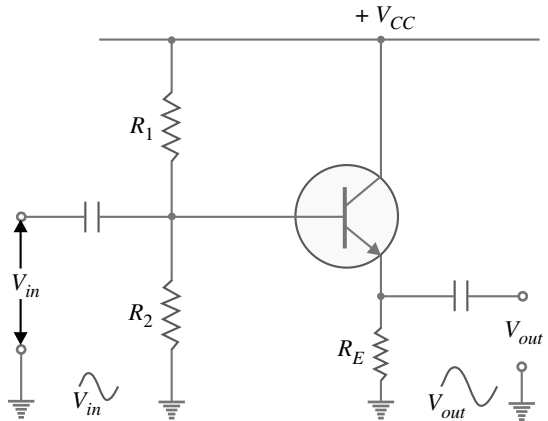

Fig. 11.24
**Circuit details.** Fig. 11.24 shows the circuit of an emitter follower. As you can see, it differs from the circuitry of a conventional *CE* amplifier by the absence of collector load and emitter bypass capacitor. The emitter resistance  $R_E$  itself acts as the load and a.c. output voltage ( $V_{out}$ ) is taken across  $R_E$ . The biasing is generally provided by voltage-divider method or by base resistor method. The following points are worth noting about the emitter follower :
The d.c. analysis of an emitter follower is made in the same way as the voltage divider bias circuit of a *CE* amplifier. Thus referring to Fig. 11.24 above, we have,